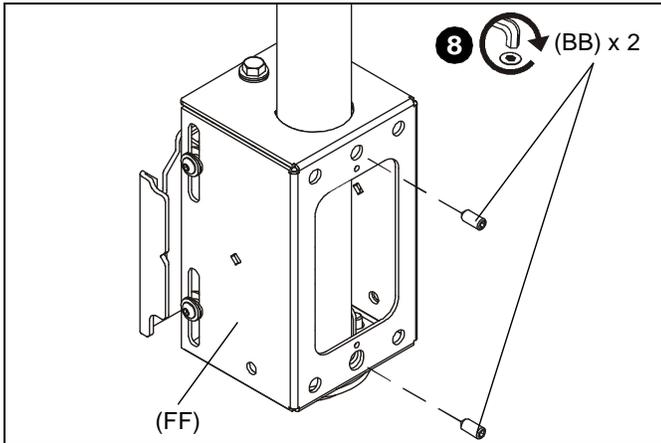

Figure 8
- Tighten two 5/16" x 3/4" set screws (BB) against column. (See Figure 8)